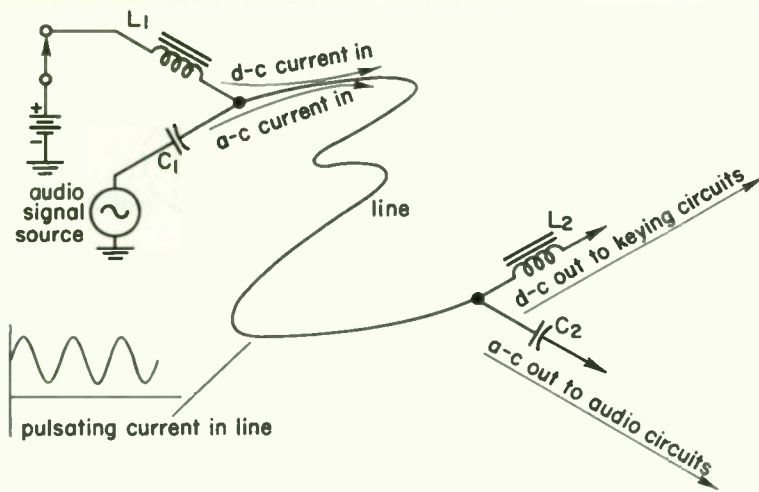

Fig. 32 Remote transmitter control circuit using a-c and d-c in the same line.
Figure 32 shows the circuit which is used. The audio to be broadcast is applied to the line through the coupling capacitor C_1 . The reactance of C_1 is chosen very small so that it easily passes the audio current. The inductor L_1 has a large reactance and prevents the a-c from being shorted to ground through the d-c supply. In this way almost all the audio current flows into the line. Similarly, the d-c current easily flows into the line through choke L_1 but is prevented from damaging the audio input source because of the presence of C_1 , which blocks its flow.
Always think of a pulsating current as two currents — one a-c and one d-c—flowing in the same circuit. You can then trace the path of each current separately, without any consideration of the other current. For example, to trace the a-c signal in Fig. 32, we can start at the signal source and trace through C_1 . The signal can't go through L_1 , because of the blocking action of the choke, so it follows along the line to the branching point at the end, where it goes through the branch with C_2 , since the choke in the other branch blocks it. The d-c current can be similarly analyzed.
6. Suppose in Fig. 32 that the insulation of the line was such that it could withstand only 200 volts peak value before it arced over and shorted. Would it be safe to use a keying voltage of 150 volts d-c and a peak audio voltage of 60 volts? _____
7. While the purpose of L_1 in Fig. 32 is to block a-c, it will not do so completely. If the a-c voltage on the line is 50 volts, how much a-c current will get through L_1 if L_1 has a reactance of 10 kilohms? _____